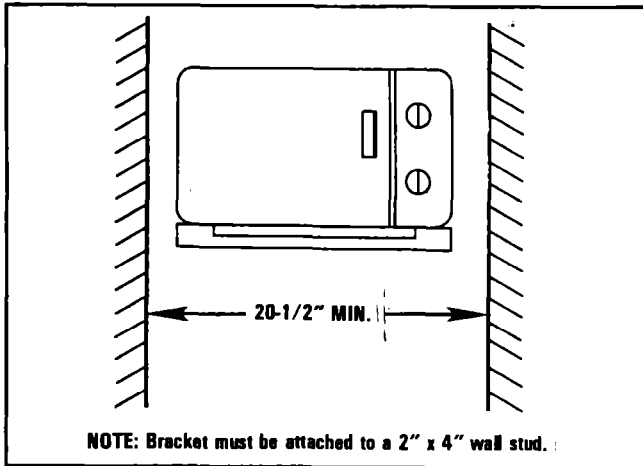
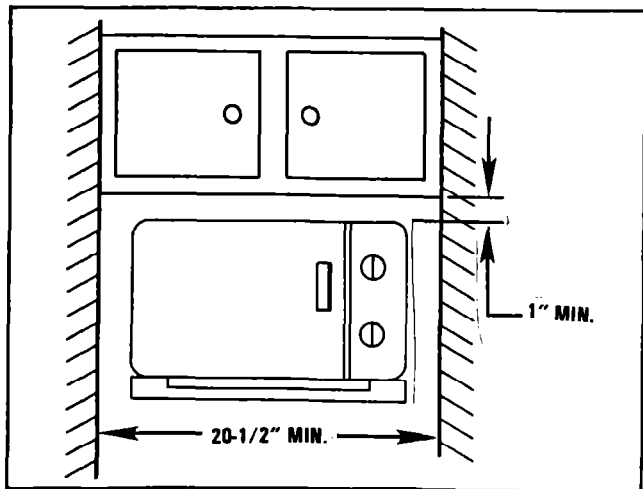

FIGURE 3
FIGURE 4
3. Locate the area in which mounting system is to be located. The minimum width required is 20-1/2". See Figure 3. If there are overhead cabinets, the minimum clearance above the oven must be 1". See Figure 4.